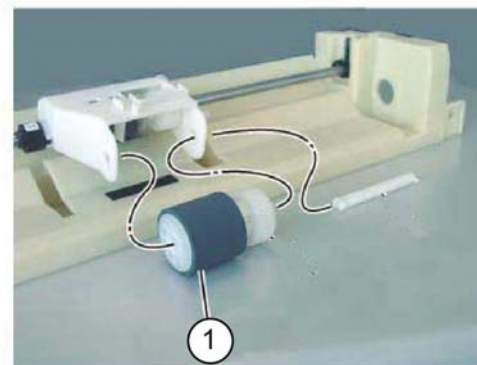

Figure 4 Nudger roll removal
5. Remove the bypass tray nudger roll (1), Figure 4.